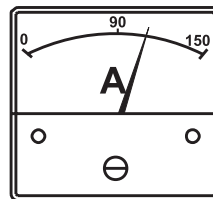

Figure 54. Ammeter (Load)
- Observe the generator's ammeter (Figure 54) and verify it reads the anticipated amount of current with respect to the load. The ammeter will only display a current reading if a load is in use.